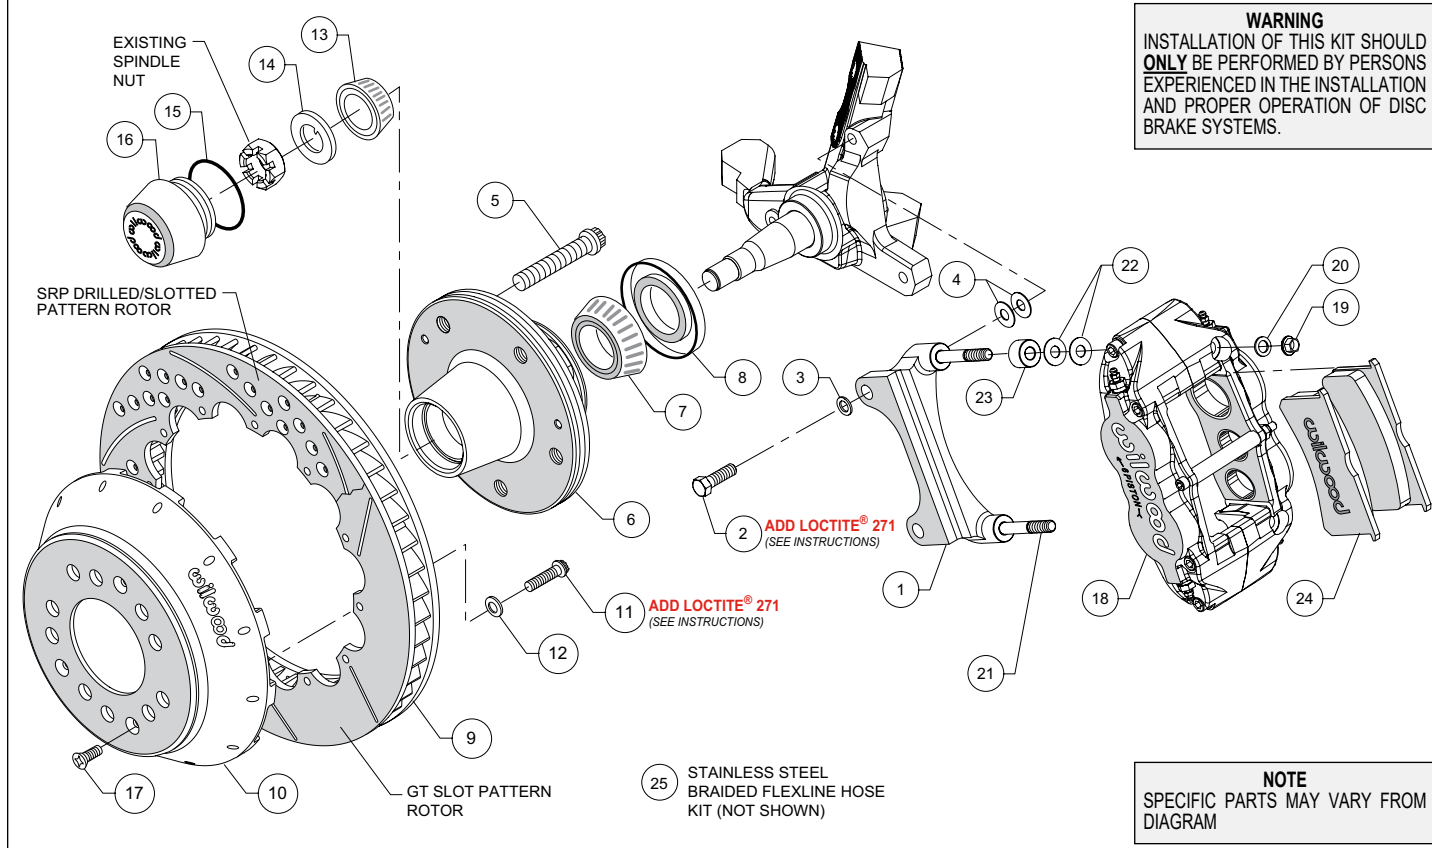

Figure 2. Typical Installation Configuration
**NOTE:** Numbers in parenthesis refer to the parts list and Figure 2 on the preceding pages.
- The caliper mount bracket (1) should initially be installed with clean, dry threads on the mounting bolts. Orient the bracket as shown in Figure 2 and Photo 1, and install using bolts (2) and washers (3). Initially place two .033" thick shims (4) on each bolt between the bracket and upright, Figure 2 and Photo 1. Temporarily tighten the mounting bolts. **NOTE:** The bracket must fit squarely against the mount bosses on the upright. Inspect for interference from casting irregularities, machining ridges, burrs, etc. Later, after the caliper alignment has been checked, the mount bolts will be secured using red Loctite® 271.